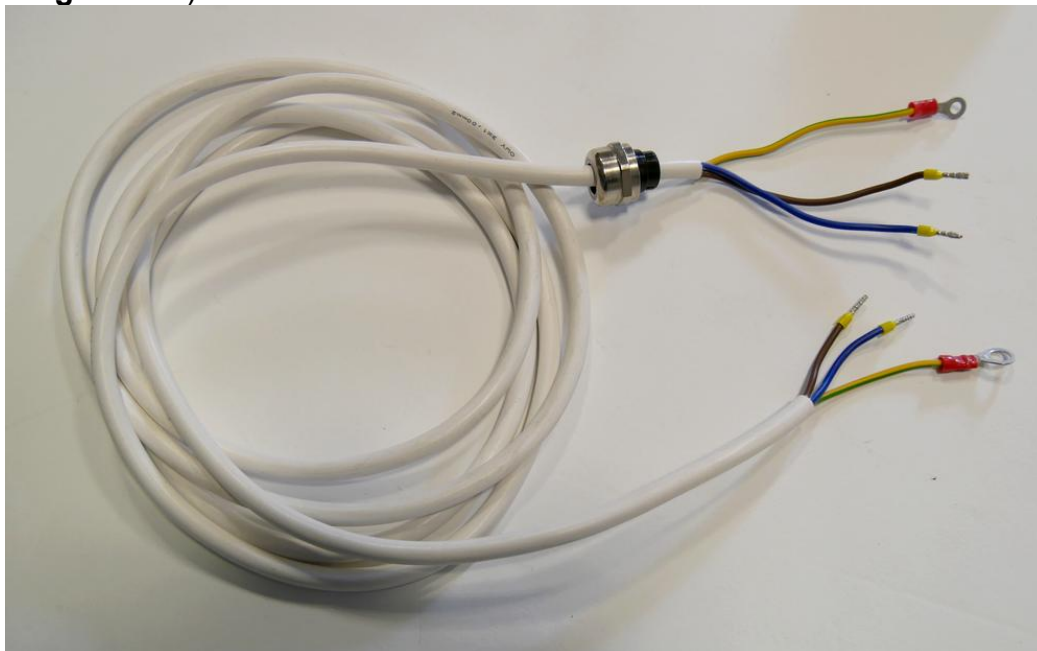
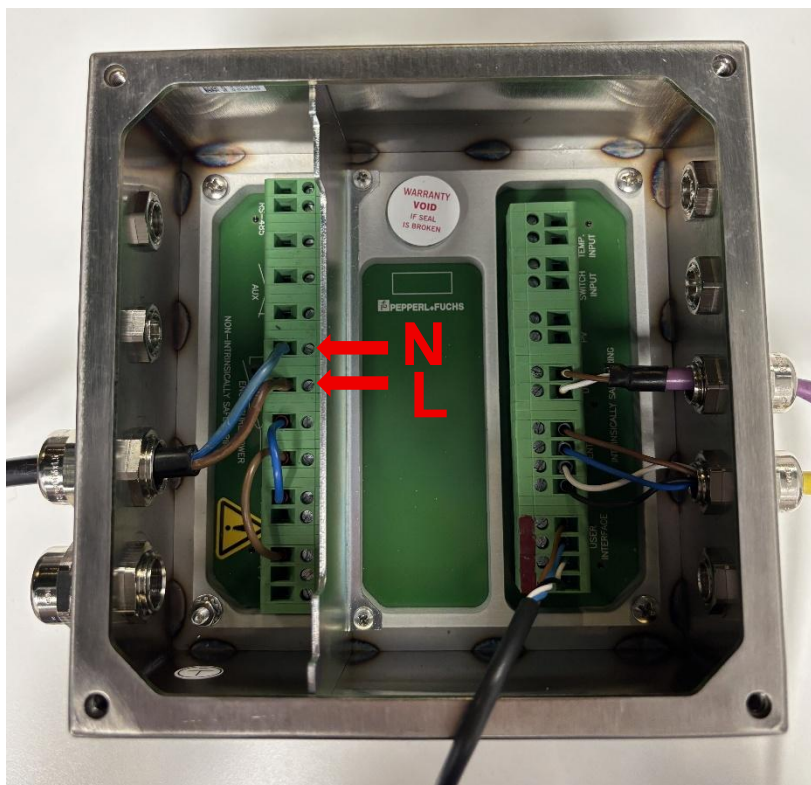
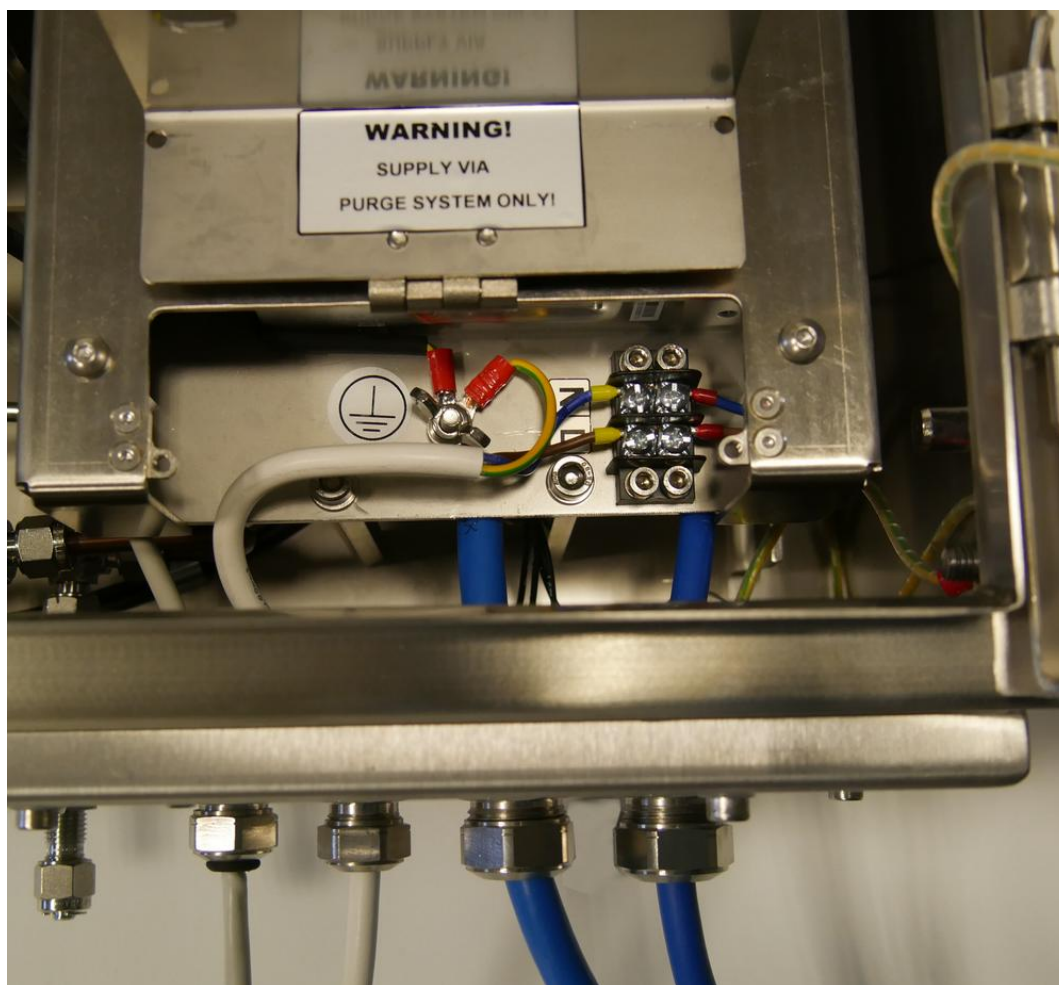

Figure 169. Analyzer supply cable.
Figure 170. Analyzer power supply connection – controller side.
Figure 171. Analyzer power supply connection – analyzer side.
3. Connect the 3x1mm² power cable (6) (Figure 169) between the purge controller (3) and the analyzer (1) - through the M16 gland (**Figure 170** and **Figure 171**).